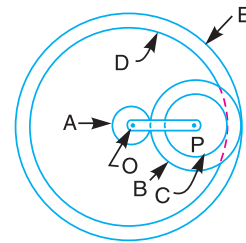

Fig. 13.15
**Example 13.11.** Fig. 13.15 shows diagrammatically a compound epicyclic gear train. Wheels  $A$ ,  $D$  and  $E$  are free to rotate independently on spindle  $O$ , while  $B$  and  $C$  are compound and rotate together on spindle  $P$ , on the end of arm  $OP$ . All the teeth on different wheels have the same module.  $A$  has 12 teeth,  $B$  has 30 teeth and  $C$  has 14 teeth cut externally. Find the number of teeth on wheels  $D$  and  $E$  which are cut internally.